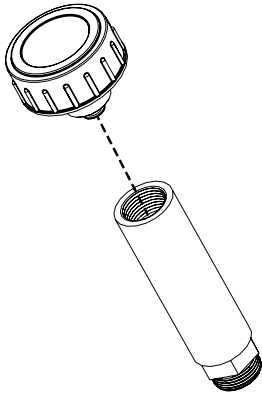

Figure 4
9. Screw the cap onto the new filler neck (Figure 4).